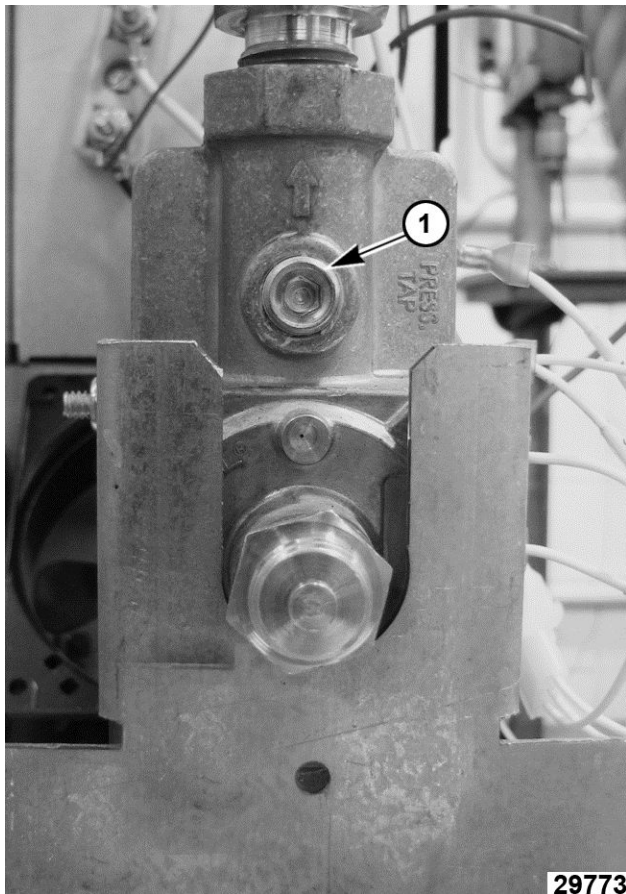

Fig. 37
- Remove plug from manifold pressure port (1, Fig. 37).